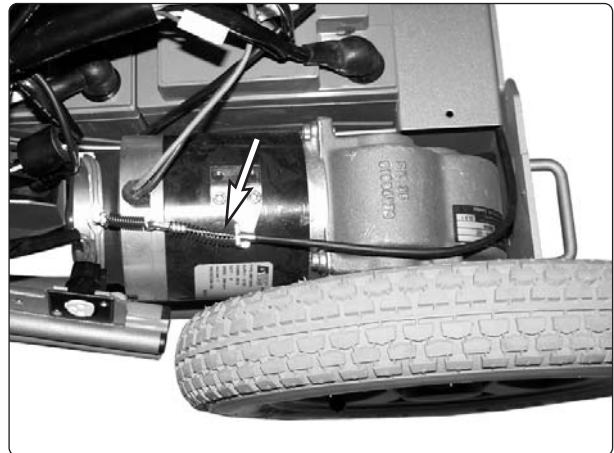

Fig. 28. Fit the brake release cable.
8. Fit the brake release cable, see fig. 28.